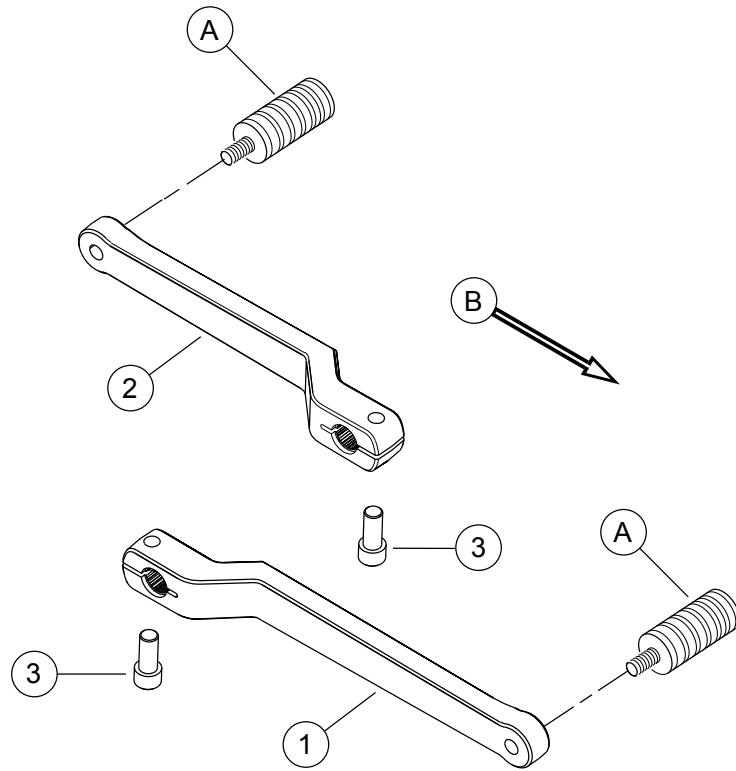

Figure 1. Service Parts: Shift Lever Kit (Generic Shown)
See Figure 1 and Table 1.
2. See Figure 1. Remove the original equipment shifter pegs (A) and retain for installation of the new levers if desired. Remove the socket head screws (3) that clamp the shift levers onto the splined shifter shaft. Remove the original equipment shift levers.
3. First, position the toe shifter lever (1) so the counterbored screw hole is at the bottom. Slide the toe shifter lever onto the splined shifter shaft. Position to the desired angle, aligning the screw hole with the notch on the shaft.
4. Install the heel shift lever (2) with the counterbore at the bottom.
5. Add a few drops of Loctite 243 (blue) to the socket head screws (3), and insert the screws into the counterbored holes. Tighten to 32–35 N·m (24–26 ft-lbs).